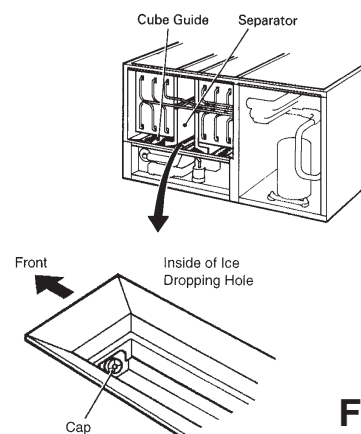

Fig. 4
- 5) Remove the cap located on the front bottom part of the ice dropping hole. Drain the water tank. See Fig. 4.